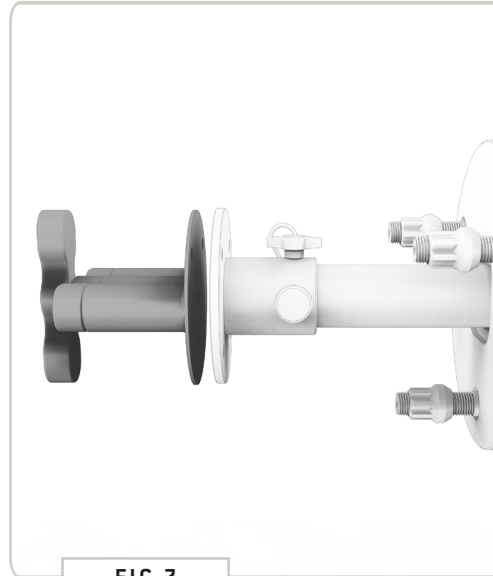

FIG 7
**3.1 Attach Rotopax to Adapter Mount:** Attach the Rotopax Mount to the Adapter Mount using the supplied 1/4-20 x 0.75 Flanged Button Head Screws, Flat Washers and Nylon Locknuts (FIG 7+8).